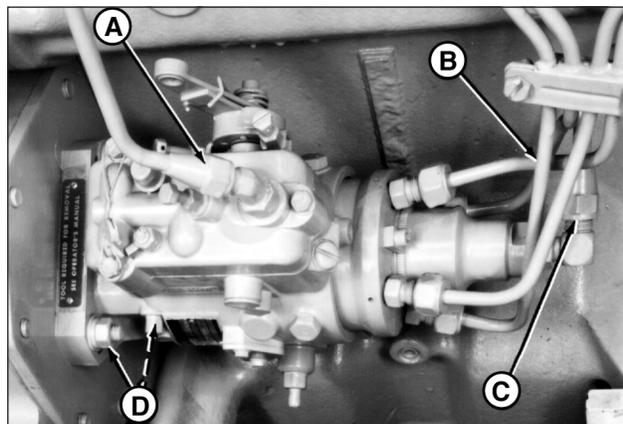

Figure 17 Reproduced by permission of Deere & Company, c.2004. Deere & Company. All rights reserved. RG5659
3. Disconnect fuel return line and fuel supply line (Figure 17).